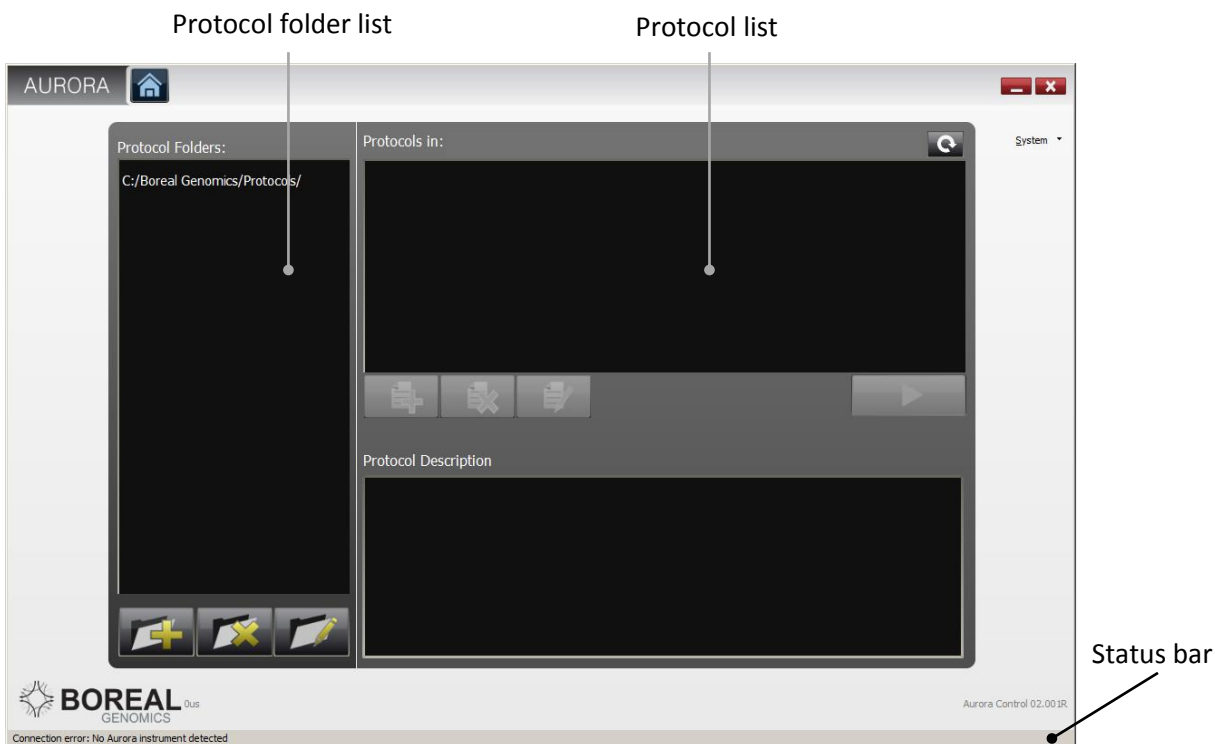

Figure 14. Aurora control software home screen
- Once the program home screen appears (**Figure 14**), turn on the Aurora instrument by switching on the power switch on the back panel of the device.